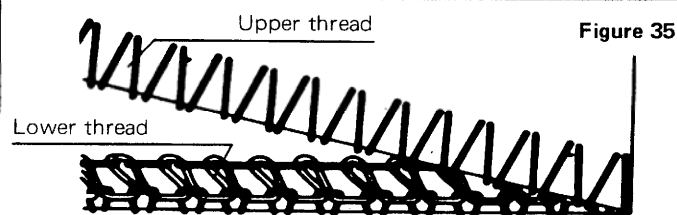

Figure 35
- (1) When the tension of the lower thread is too heavy (Figure 35), loosen the lower overedging thread tension adjuster.